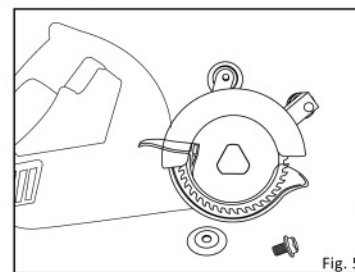

Fig. 5
3. Remove lock nut and washer from the blade (fig. 5)